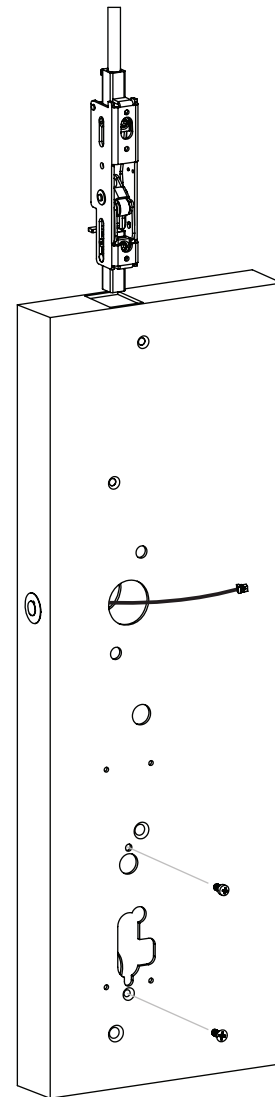

Figure 7-3B
2. Slide rod assembly into door and secure with #10-24 x 3/8" screw for top inner case assembly and #10-24 x 1/2" screw for bottom inner case assembly (Figure 7-3B).